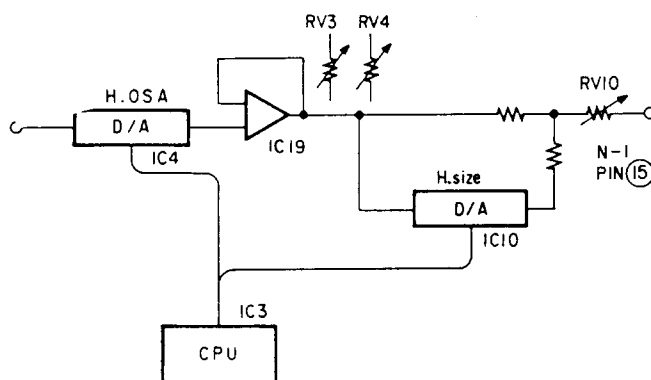

Fig. 3-11 H. SIZE correction block
The signal according to the horizontal oscillation frequency is output by the CPU (IC3) control from pin ⑤ of IC4 (D/A). The maximum value of this voltage is limited by RV3 and RV4. This signal is the reference signal, it is input to IC10 (D/A), adjusting the voltage with the CPU (IC3) signal. After being added this voltage to the above voltage, the voltage adjusted with RV10 is sent out to the D3 board as the H. SIZE correction voltage from pin ⑮ of connector N-1. The block diagram of H. SIZE correction waveform circuit is as shown in Fig. 3-11.